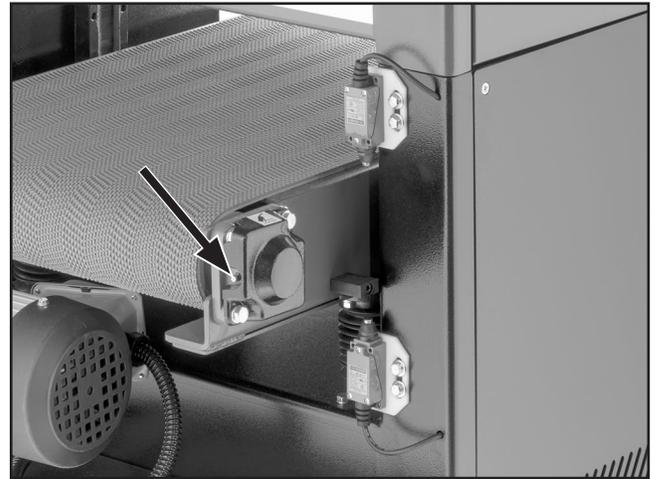
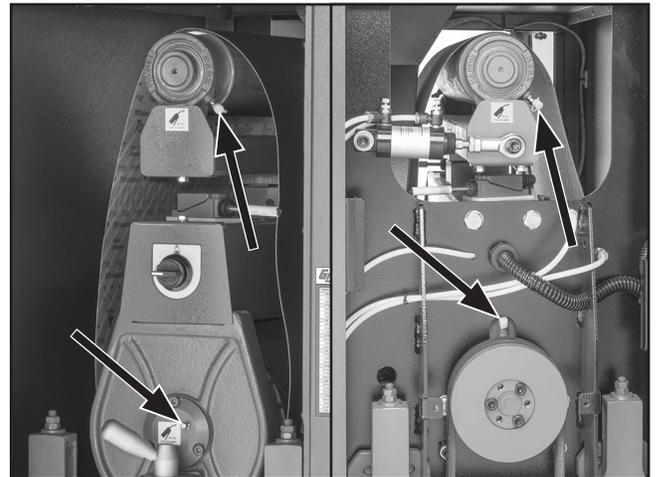

Figure 55. Location of conveyor belt roller grease fitting.
Figure 56. Location of sanding belt roller and drum grease fittings.
4. Use shop rag and mineral spirits to clean (1) conveyor roller, (2) sanding belt roller, and (2) sanding belt drum grease fittings (see **Figure 55–Figure 56**).
5. Add 1–2 pumps of grease to each grease fitting (see **Figure 55–Figure 56**).